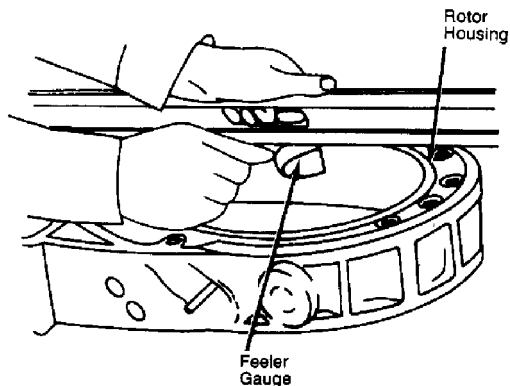

Fig. 10: Measuring Rotor Housing for Distortion
3) Place a straightedge across sealing surface of rotor housing and check for distortion with a feeler gauge. If distortion exceeds .0016" (.04 mm), replace housing. See Fig. 10.